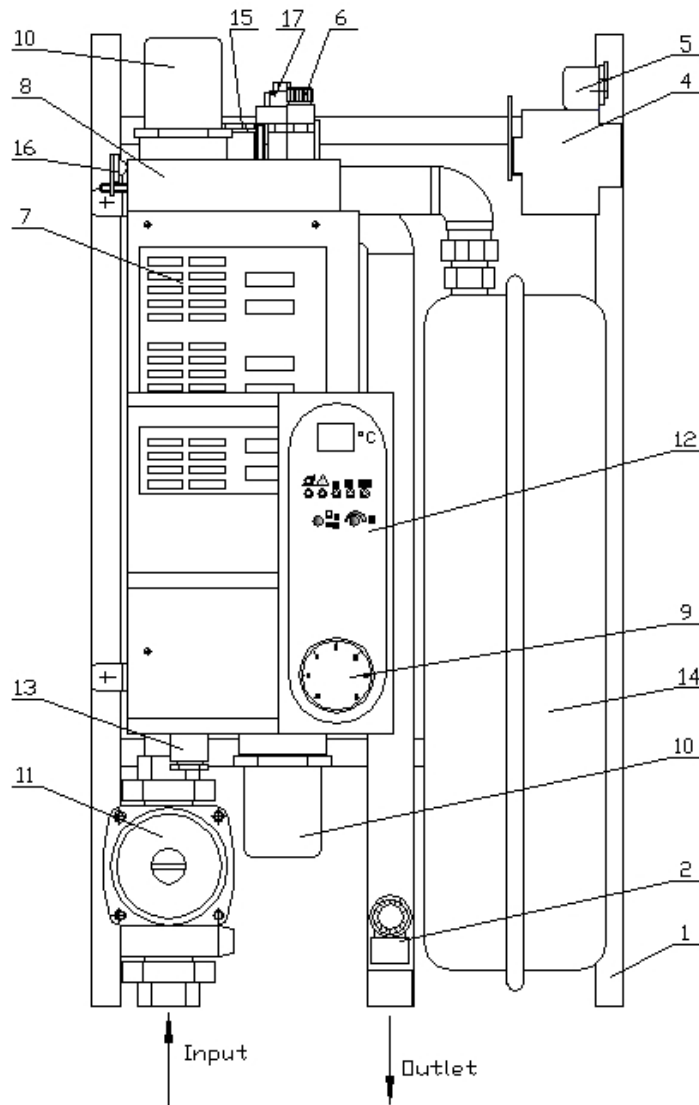
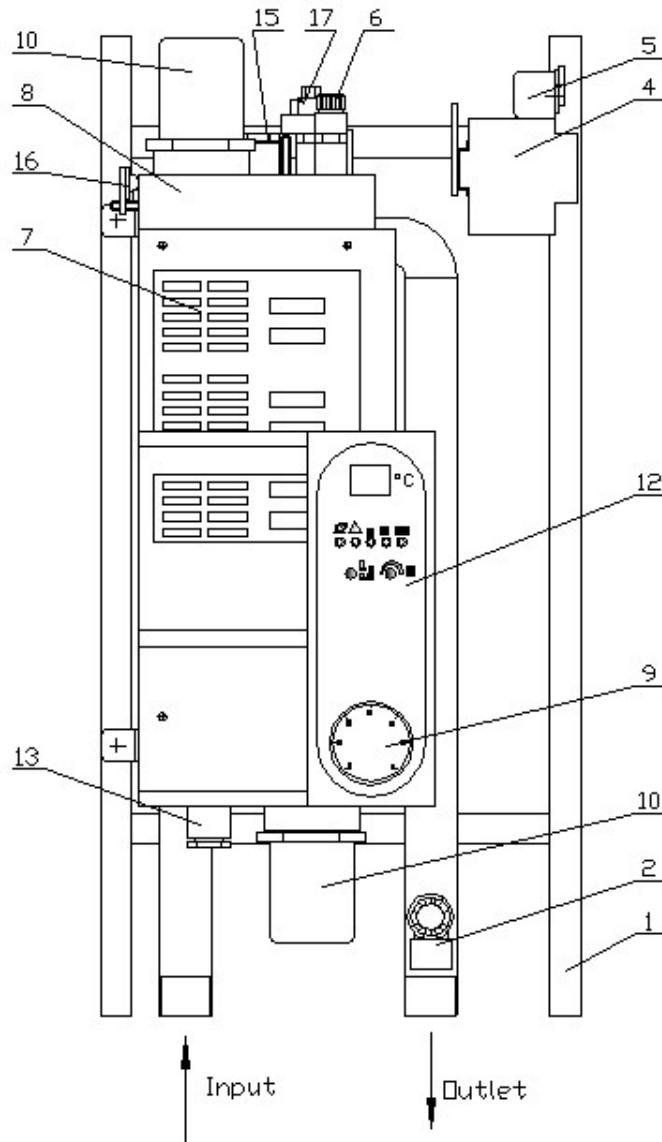

Fig.3
Fig.4
- Structure of the electric boiler/ module, see Fig. 3 page 11, Fig. 4 page 12.